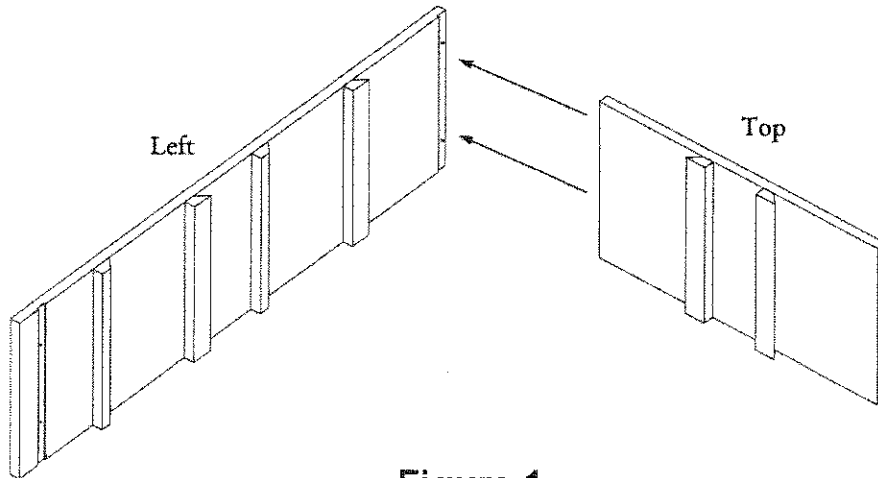

Figure 1
2. Attach the left panel to the top panel using the pre-drilled holes and screws provided (**Figure 1**).